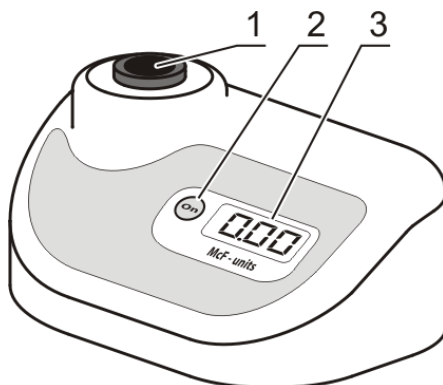

Figure 2. Front view
- Check if the A-16 adapter is in the socket (fig. 2/1). The device is calibrated for operation with the glass tubes 16 mm in external diameter. To use different tubes, recalibrate the unit, see the **Calibration** section of the manual.
- 5.3 The following indication may be shown on the display (fig. 2/3):
Note. The display of **DEN-1B** switches off if the socket is empty for longer than one minute. Press the **On** key (fig. 2/2) to activate the unit.
- 5.6 Insert the tube into the socket of densitometer (fig. 2/1). The McFarland value for the solution will be shown on the display (fig. 2/3).
- 6.6.2 **Transparent standard.** Display shows $\square.\square\square$ indication. Insert standard for **0.00** value into the socket (fig. 2/1) of the unit. If the standard for 0.00 value is not available, fill the tube (of the kind that is used for operations) with distilled water. Use the tube as the **0.00** value standard. Press **Install** button to save transparent standard value. Display shows next required calibration value.
- 6.7 **Common calibration rules.** Display shows indication of necessary calibration value. Insert the necessary standard into the socket (fig. 2/1) of the unit and press the **Install** button to save the value for current standard.